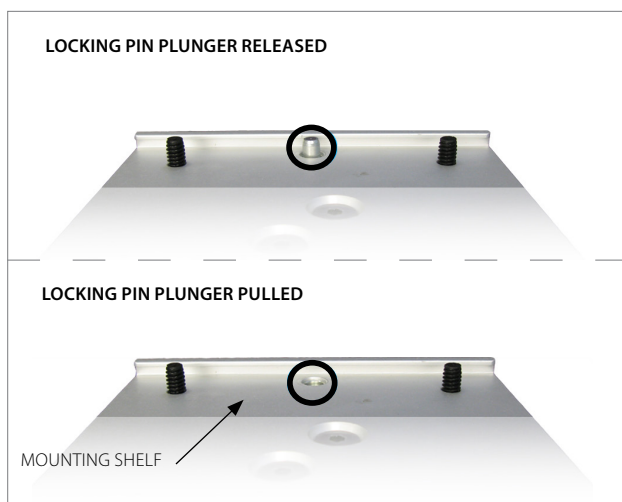

Figure 2
2. Loosen the 4x **PLASTIC SCREWS** on the bottom side of the **MOUNTING SHELF**. Pull down on the **LOCKING PIN** at the bottom of the **MOUNTING SHELF** and twist it to keep it open. Slide the **EFFICIA MOUNTING PLATE** laterally onto the **MOUNTING SHELF** until the **LOCKING PIN** aligns with the clearance hole at the front of the **EFFICIA MOUNTING PLATE** (Figure 2).